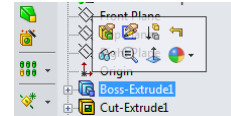

Fig2
- Click on the feature and choose the second tool (Edit Sketch) in the pop-up menu (Fig2).